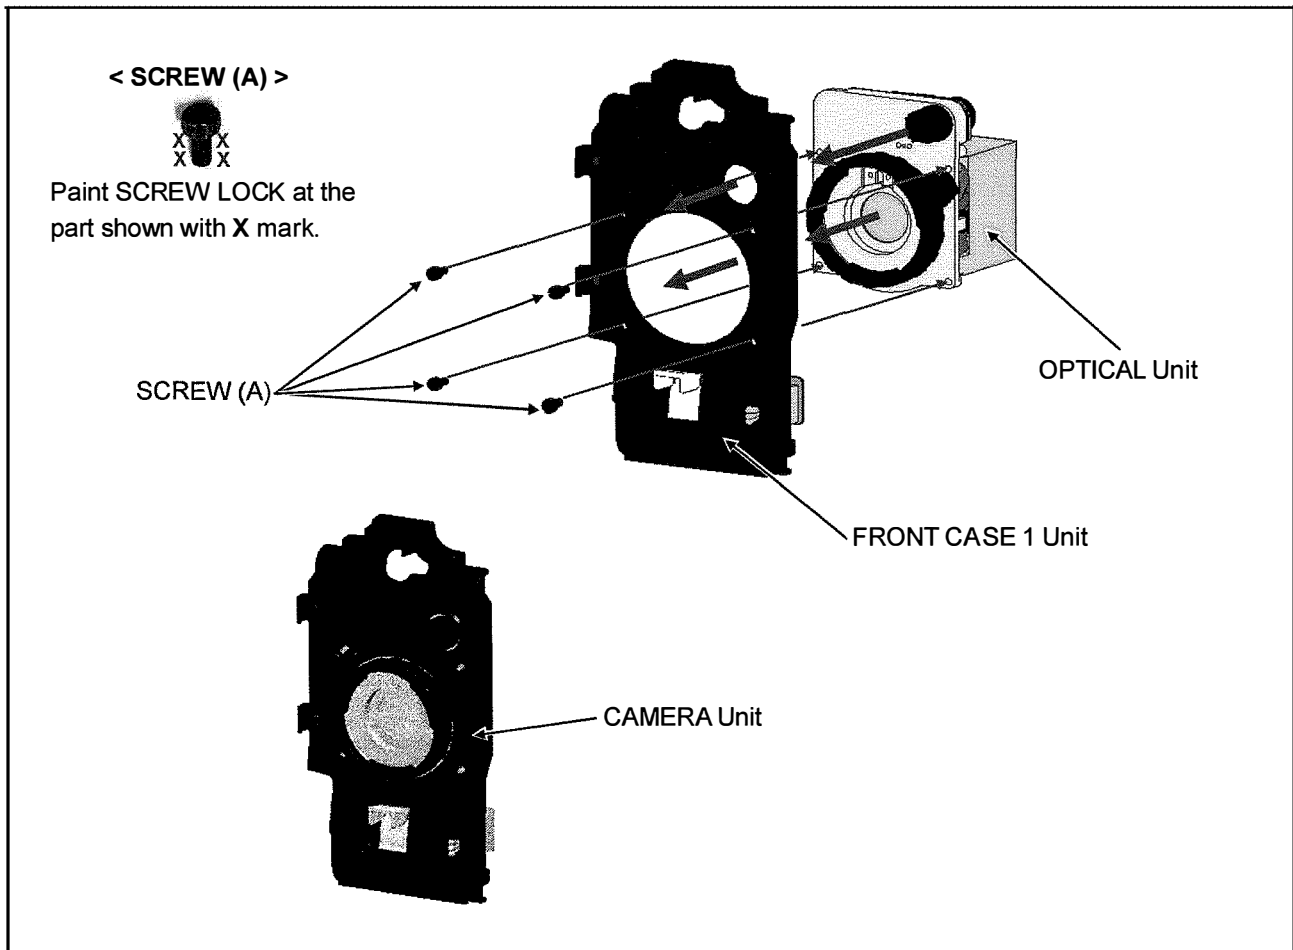

Figure 13-4
1. Tighten the screw (A) with [$120 \pm 5\text{cN}\cdot\text{m}$ ($12.2 \pm 0.5\text{kg}\cdot\text{cm}$)] of torque as shown in figure 13-4, when you assemble the OPTICAL Unit to Front Case 1 Unit.